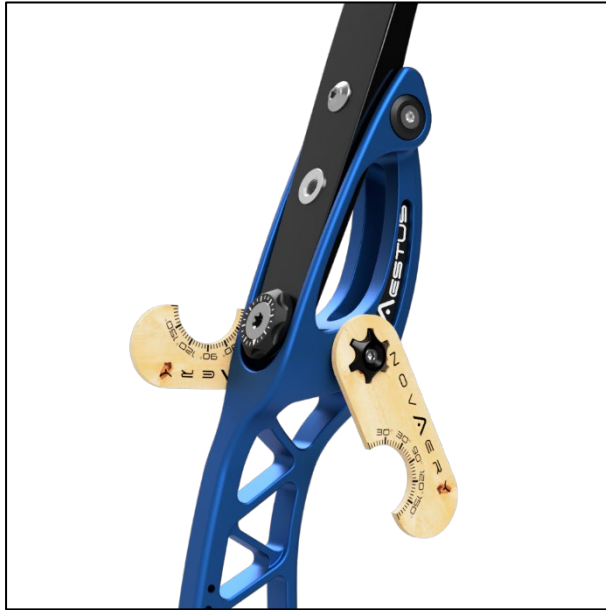

Figure 13: F.L.A.T. tool for limb alignment
- 2.5. Change the setting according to the following instructions. The F.L.A.T. tool is used according to Figure 13.